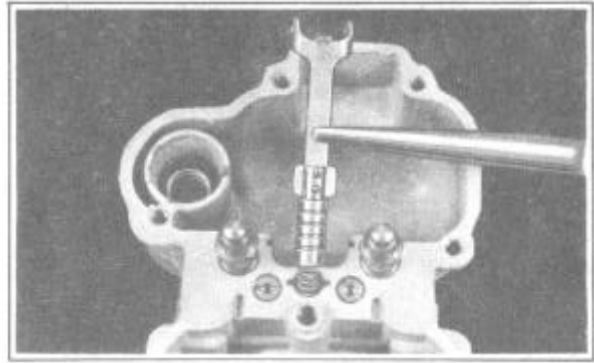

FIGURE 72
14. Install vacuum piston spring and vacuum piston assembly. It is advisable to use a NEW vacuum piston spring each time the unit is serviced, Figure 72.